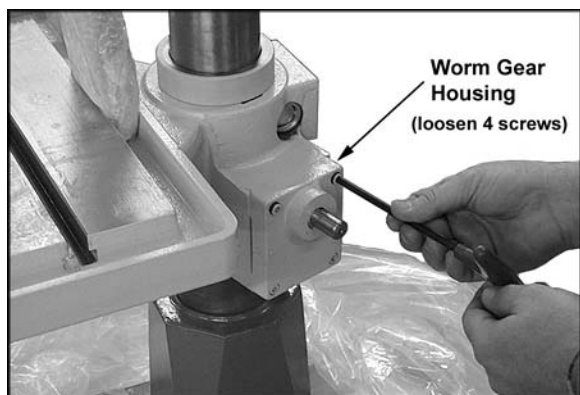

Figure 4
4. *Figure 4:* Loosen (do not remove) the four screws in the worm gear housing.
7. Tighten the four screws in the worm gear housing (*shown in Figure 4*).